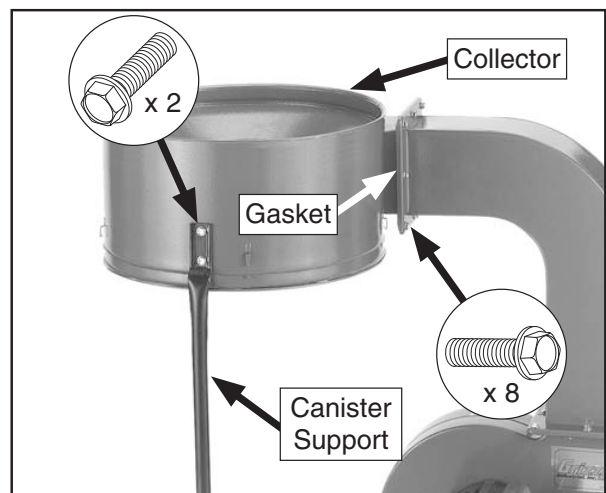

Figure 19. Collector installed.
7. With assistance, position the remaining rubber gasket on the rim of the outlet connector, mate the rim of the collector with the connector, and secure it in place with (8) $\frac{5}{16}$ -18 x $\frac{1}{2}$ " flange bolts, as shown in **Figure 19**.
8. Attach the top of the canister support to the collector with the remaining two $\frac{5}{16}$ -18 x $\frac{1}{2}$ " flange bolts, as shown in **Figure 19**.